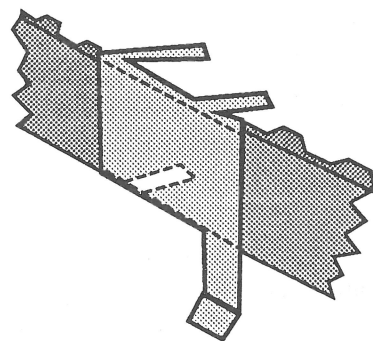

FIGURE 5
- a) If the pins are not bent already, prebend the top pins to a 45-degree angle and the bottom pin to 90 degrees as shown in Figures 5 and 6.